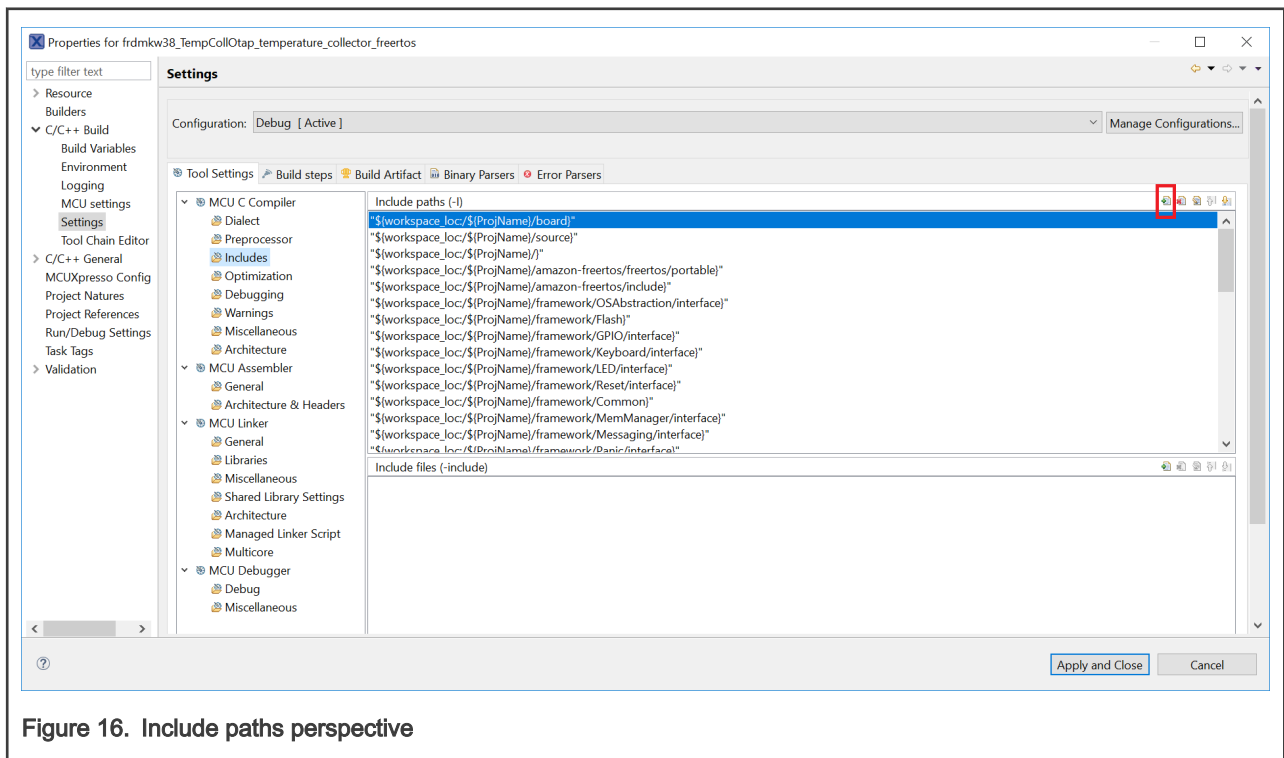

Figure 16. Include paths perspective
5. Navigate to **Project -> Properties** in MCUXpresso IDE. Go to **C/C++ Build -> Settings -> Tool Settings -> MCU C Compiler -> Includes**. Click the icon next to the **Include paths** textbox, as shown in Figure 16. In the new window that appears, click the **Workspace** button.